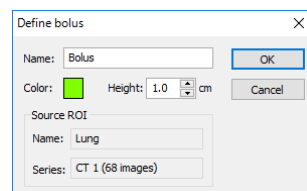

Figure 260 – Define bolus dialog
1. Select the ROI for which you want to create a bolus, and click the **Bolus...** button in the **ROI drawing** tool. The **Define bolus** dialog (see Figure 260) is then displayed in which is possible to enter the name of the bolus ROI and its color and to define the height of bolus in cm in the **Height** box.